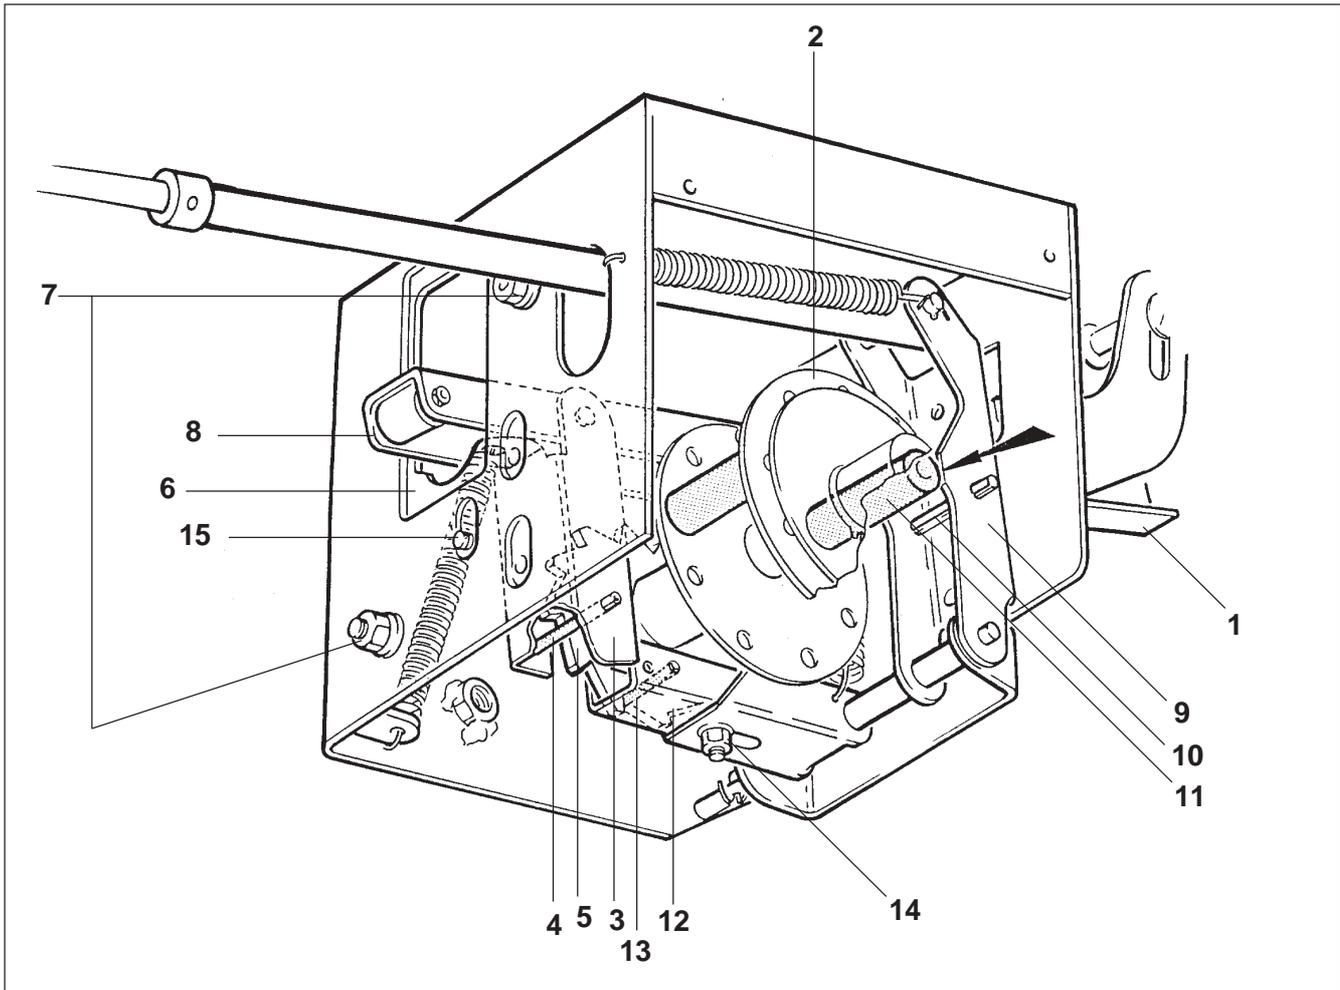

Fig. 26.57
When pushing down the lever (Fig. 26.57/1) the dividor wheel (Fig. 26.57/2) is being turned by the pulling ratchet (Fig. 26.57/3). The expansion bush (Fig. 26.57/4) turns the sprocket (Fig. 26.57/5). The stop plate (Fig. 26.57/6) limits the movement of the pulling ratchet (Fig. 26.57/3) and hereby the turning angle of the dividor wheel.
- Set the stop plate (Fig. 26.57/6) in such a way, that the dividor wheel is turned by one tooth division when actuating the lever. For this two hex. nuts (Fig. 26.57/7) have to be slackened and the stop plate has to be moved correspondingly either upwards or downwards. Set the stop plate sideways in such a way, that the lever (Fig. 26.57/8) is positioned centrally in the window of the stop plate. After finishing the setting tighten hex. nut (Fig. 26.57/7) firmly.
The tipping lever (Fig. 26.57/9) is resting with the expansion bush (Fig. 26.57/10) on the dividor wheel (Fig. 26.57/2).
- Press lever (Fig. 26.57/1) so often downwards until one shifting roller (Fig. 26.57/11) presses away the expansion bush (Fig. 26.57/10) from the divisor wheel (Fig. 26.57/2) .
The divisor wheel is set correctly, when all shifting rollers (Fig. 26.57/11) come to a rest to 2 to 3 mm from the highest point (see arrow in Fig. 26.57) of the tipping lever (Fig. 26.57/9). Conduct the setting on the retaining ratchet (Fig. 26.57/12) as follows:
- The divisor wheel will be arrested after actuating lever (Fig. 26.57/1) of the expansion bush (Fig. 26.57/13) of the retaining ratchet. The setting is conducted by shifting the retaining ratchet (Fig. 26.57/12). The prior slackened inner hex. bolt M 6x12 (Fig. 26.57/14) should be retightened after every new setting.
Press lever (Fig. 26.57/1) so often downwards, until the divisor wheel has made at least four complete turns. Hereby it should be checked whether the shifting rollers (Fig. 26.57/11) come to a rest by 2 to 3 mm before the highest point of the tipping lever (see arrow in Fig. 26.57) and whether the divisor wheel is faultlessly turned.
The pulling ratchet (Fig. 26.57/3) must freely operate at every shifting procedure but it must not jump over. Adjust stopping bolt (Fig. 26.57/15) accordingly.